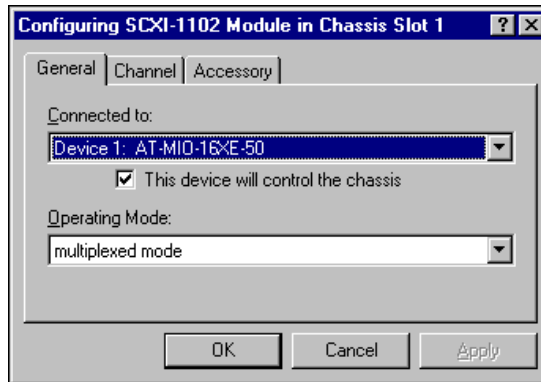
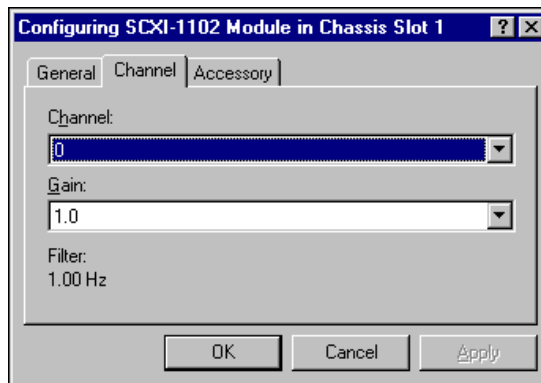

Figure 5. SCXI Module General Tab
Figure 6. SCXI Module Channel Tab
6. Click the **General** tab shown in Figure 5 and the **Channel** tab shown in Figure 6. All items on both the **General** and **Channel** tabs should have defaulted to the correct settings. If the default settings are incorrect or incomplete, change them as needed as shown in Figure 5 and 6.
10. Configure the module as described in Configure the System and shown in Figures 5, 6, and 7.